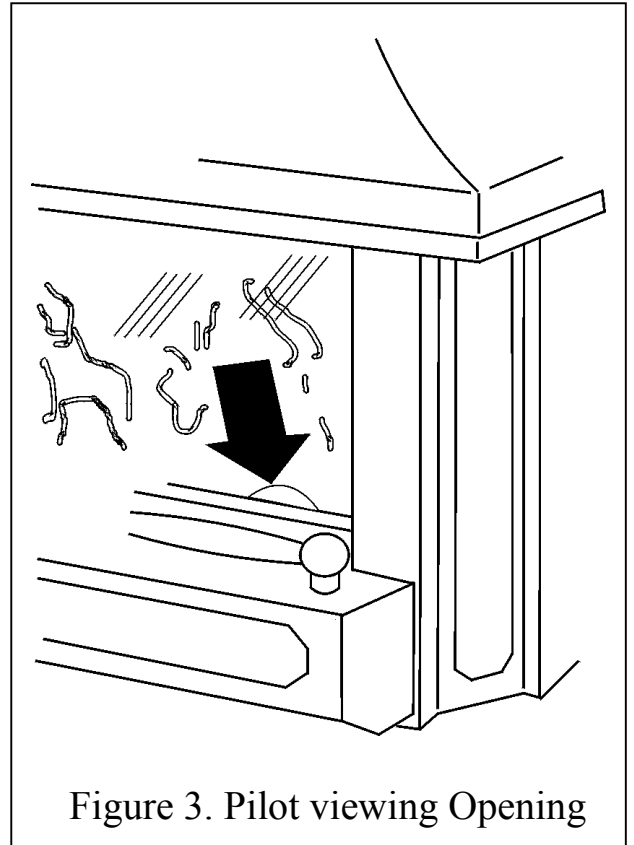

Figure 3. Pilot viewing Opening
2.3.1 Depress the control knob. While keeping it depressed, turn to IGN position. Turning the control should normally cause two consecutive sparks to occur which should ignite the pilot gas. A click should be heard while turning each time a spark is generated. The pilot flame can be seen by looking through the gap at the front of the right side front coal - see figure 3.